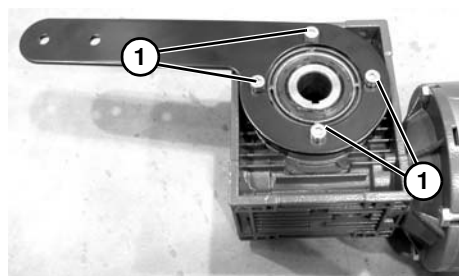

Figure 40
2. If required, change gearmotor position by removing four screws (**Figure 40, item 1**). Rotate gearmotor mounting plate to other position and replace screws. Tighten to 22.5 Nm (200 in lbs).